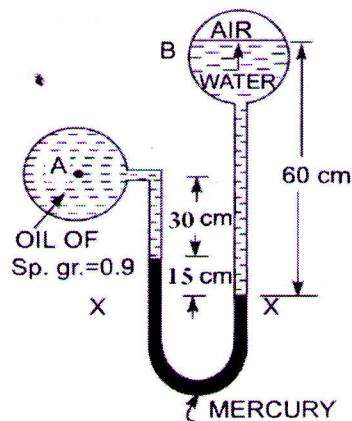

Fig. 1
- 11a. Two points A and B are connected with a differential manometer as shown in figure 1. Air pressure at point B is $8.87 \text{ N/cm}^2(\text{abs})$, find the absolute pressure at A. (6)